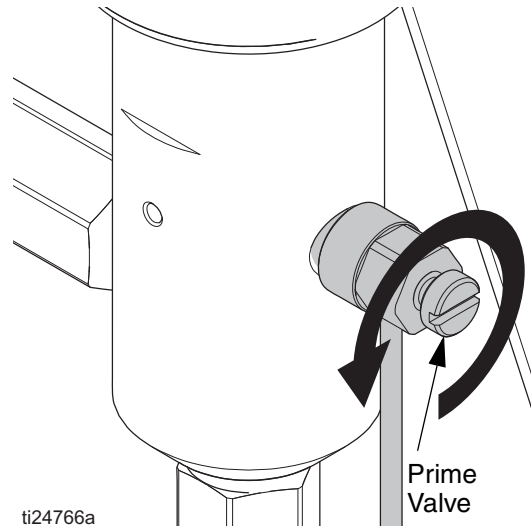

FIG. 9 Bleed Valve
2. Shut off the inlet and outlet lines using shutoff valves (N).
4. Open bleed valve by turning needle counter-clockwise with a flathead screwdriver to relieve internal pump fluid pressure. See FIG. 9.